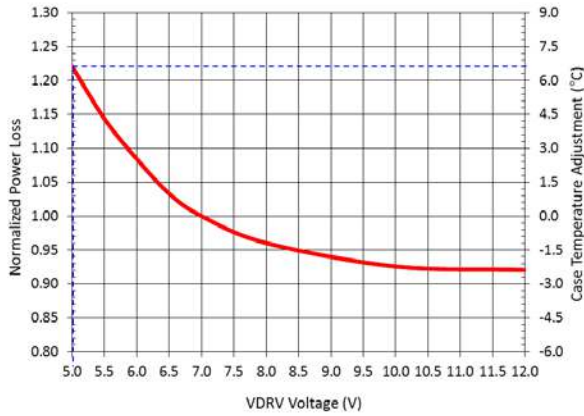

Figure 13: Normalized Power Loss vs. VDRV Voltage (Circuit of Figure 31)
5) Determine the MOSFET drive voltage normalizing factor with  $V_{DRV}=5V$ , which is 1.22 based on the dashed lines in Figure 13.